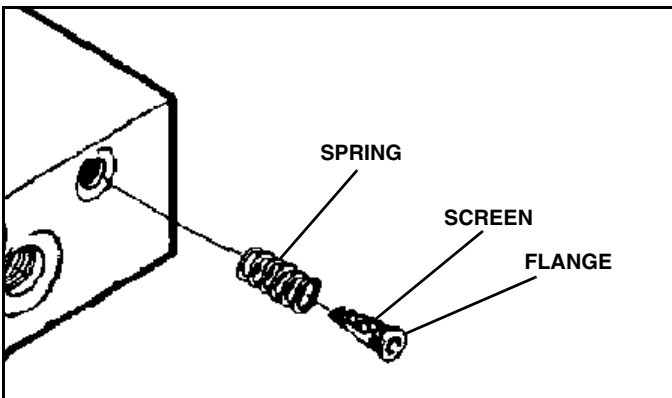

Figure 1-13
29. Remove bag of parts from power unit. Place spring, then screen, into ports C1, C2, C3 and C4. The flange on the screen should face the fitting, which will hold it in place. (See Figure 1-13).